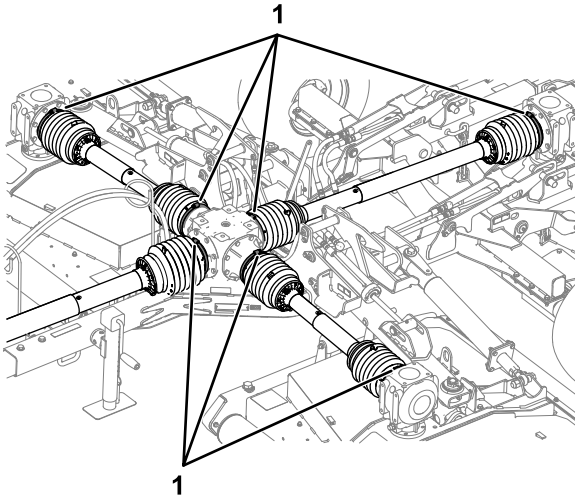

Figure 22
7. Check that the 7 hose clamps firmly secure the driveshaft guards to the center and deck gear boxes (Figure 22).